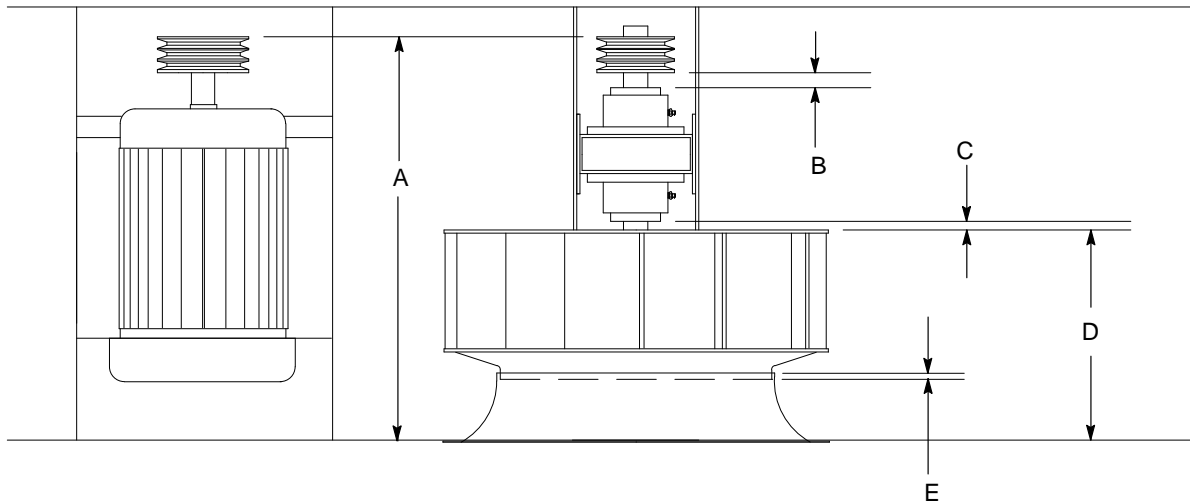

Figure 6-12 Fan and Motor Mounting Dimensions (Refer to Table 6-3)
1. Refer to Figure 6-12 and Table 6-3. Adjust the height of the fan on the shaft. The bottom of the fan should sit inside the cone (overlap) 3–6 mm (0.125–0.25 in.). Tighten the shaft set screw in the fan hub.
5. Tighten the cap screws evenly, a quarter turn at a time, to force the tapered bushing into the sheave. Tighten the screws as specified in Table 6-2. Maintain a gap of 3–6 mm (0.125–0.25 in.) between the bushing flange and the sheave. See Figure 6-12 and Table 6-3.